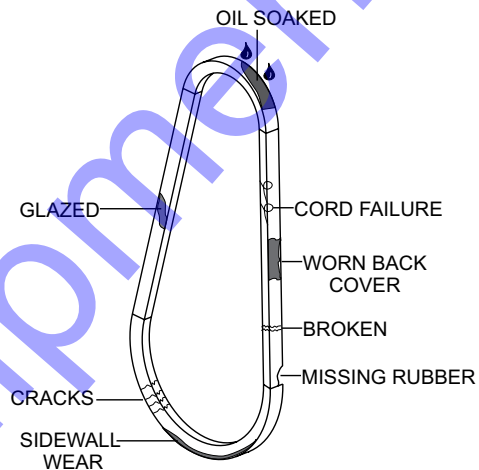

Figure 9. Drive Belt Inspection
Visually examine the V-belt (Figure 9) and determine if it is full of tiny cracks, frayed, has pieces of rubber missing, is peeling or otherwise damaged.
3. Place the fuel valve lever (Figure 9) in the **OFF** position.